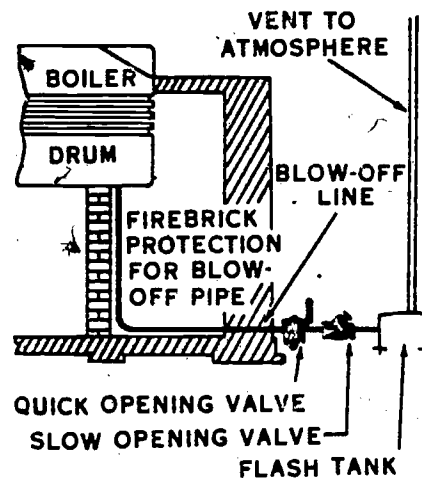

Figure 43. A typical blowdown system.
59. *Blowdown system.* All steam heating systems must have the provision to blow down the boiler. The amount of blowdown is indicated by the results of the total dissolved test. The object of blowing down the boiler is to remove sediment such as mud, scale, and other impurities that are harmful to the boiler. Blowdown is also used to remove excess water from the boiler. The blowdown system is usually connected to the lower tapping on the boiler and consists of a slow-opening valve, a quick-opening valve, a flash tank, and the necessary piping, as illustrated in figure 43.